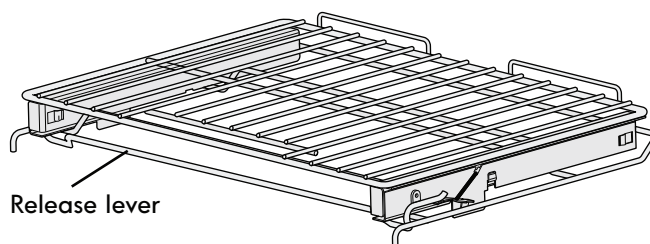

Figure 20: Extendable Glide Rack with release lever in locked position
1. Lift up on the release lever located across the lower front of the rack, as shown in Figure 20.